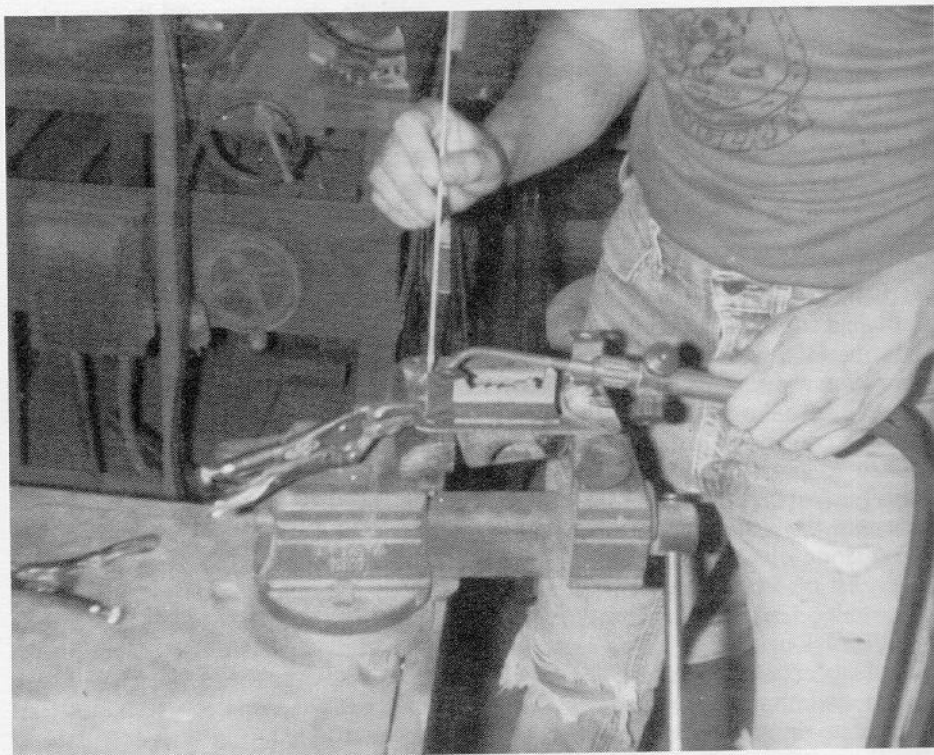

FIGURE 4 — NOTE: Apply more heat to housing than bracket. Bracket is light gauge metal.
9. Weld parts in place. You may also braze, use mild steel rod, or wire weld. (See Figure 4)